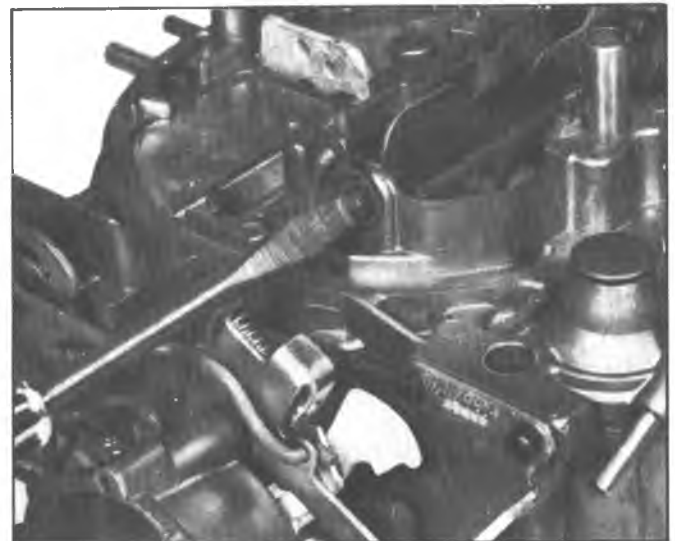

Fig. 2MQ—Removing Upper Choke Lever
1. Remove upper choke lever from the end of choke shaft by removing retaining screw (Fig. 2MQ). Then rotate upper choke lever to remove choke rod from slot in lever.